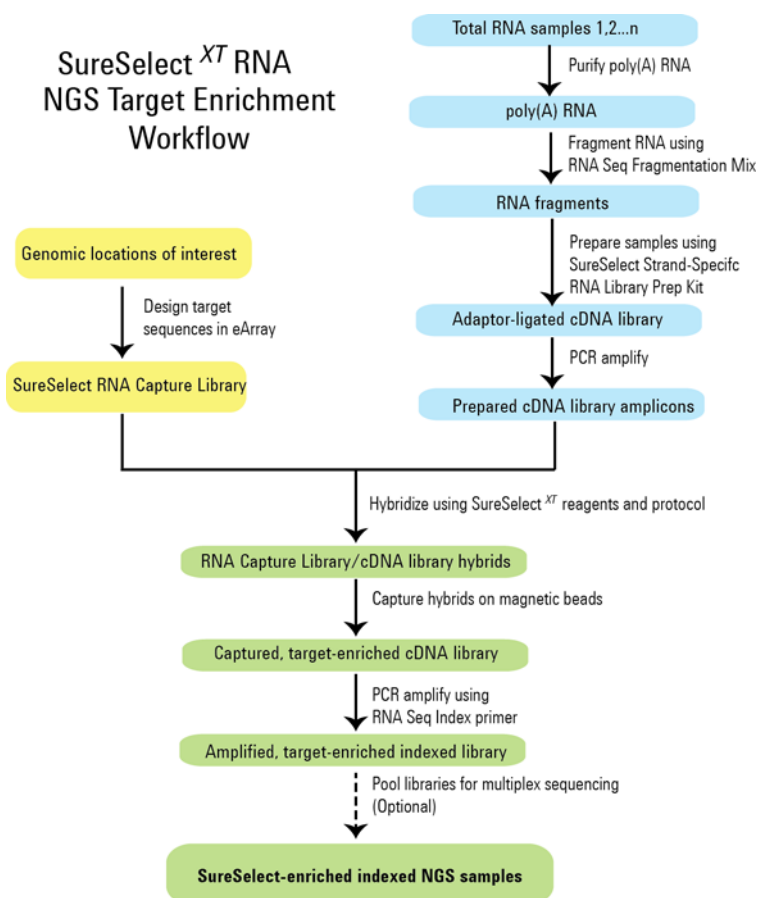

Figure 2 Overall sequencing sample preparation workflow
Figure 2 summarizes the SureSelect workflow for RNA samples to be sequenced using the Illumina sequencing platform. For each sample to be sequenced, an individual cDNA library is prepared. The libraries are then target enriched and tagged by PCR with an index sequence. Depending on the capacity of the sequencing platform, up to 96 samples can be pooled and sequenced in a single lane using the multiplex index tags that are provided with the SureSelect Strand-Specific RNA Library Prep kit.
- For sample indexing by PCR (see Figure 2), you will need to prepare a separate plate containing the indexing primers. Assign the wells to be indexed with their respective indexing primers during experimental design.